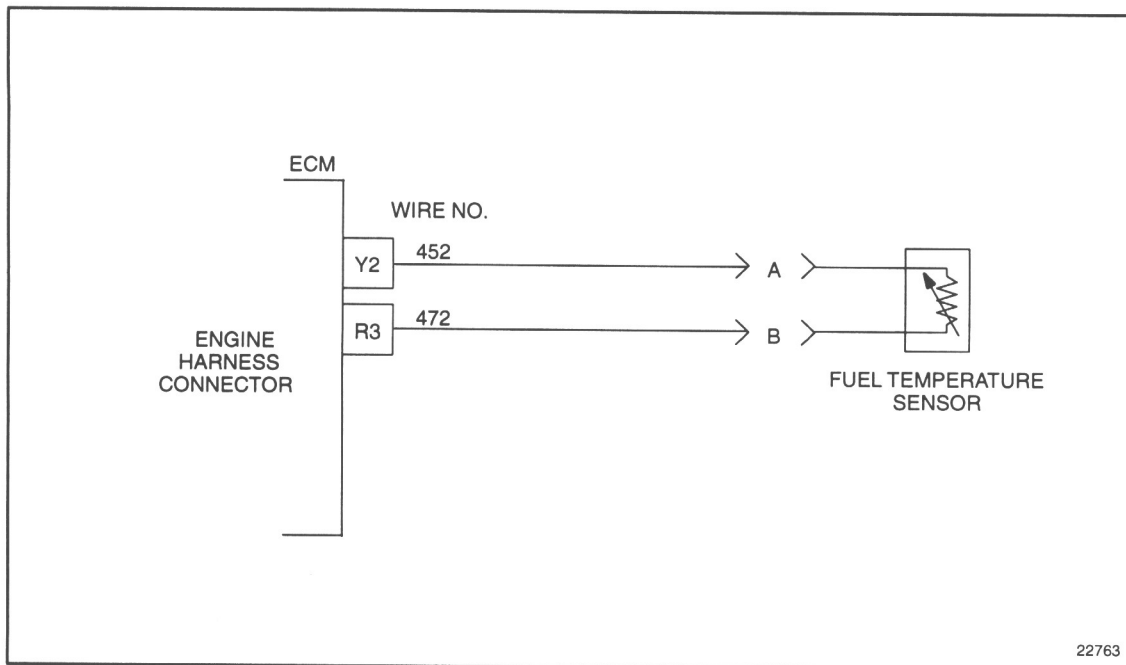

Figure 23-2 Fuel Temperature Sensor
3. Install a jumper wire between sockets A and B of the FTS harness connector. see Figure 23-2.